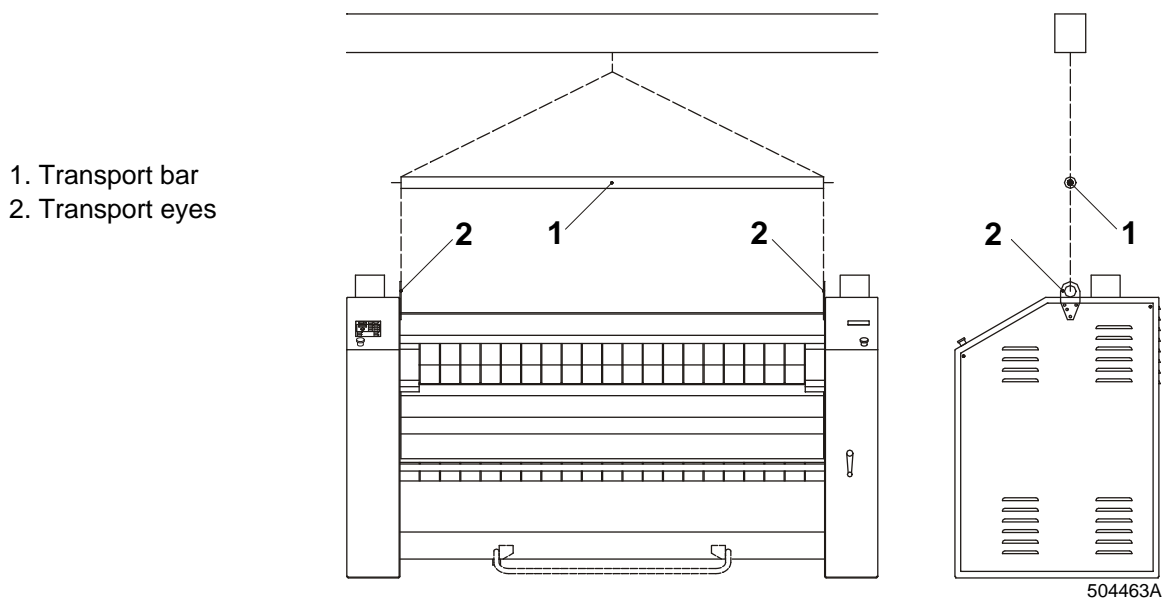

Fig. 4.1.C Handling with hung machine
In case of need and under certain conditions, it is possible to transport the machine in hanging position. Before the ironer is installed on the place, you must remove wrapping and four anchor bolts. After removal upper front covers, holders of covers and pipes of ribbons, the transport eyes must be installed into prepared openings (fig.4.1.C, pos.2 – special equipment). Hanger must be fitted with the spacing bar (fig. 4.1.C pos.1) in such a way, so that eyes would be loaded only with vertical force when lifting the machine up (fig. 4.1. C).